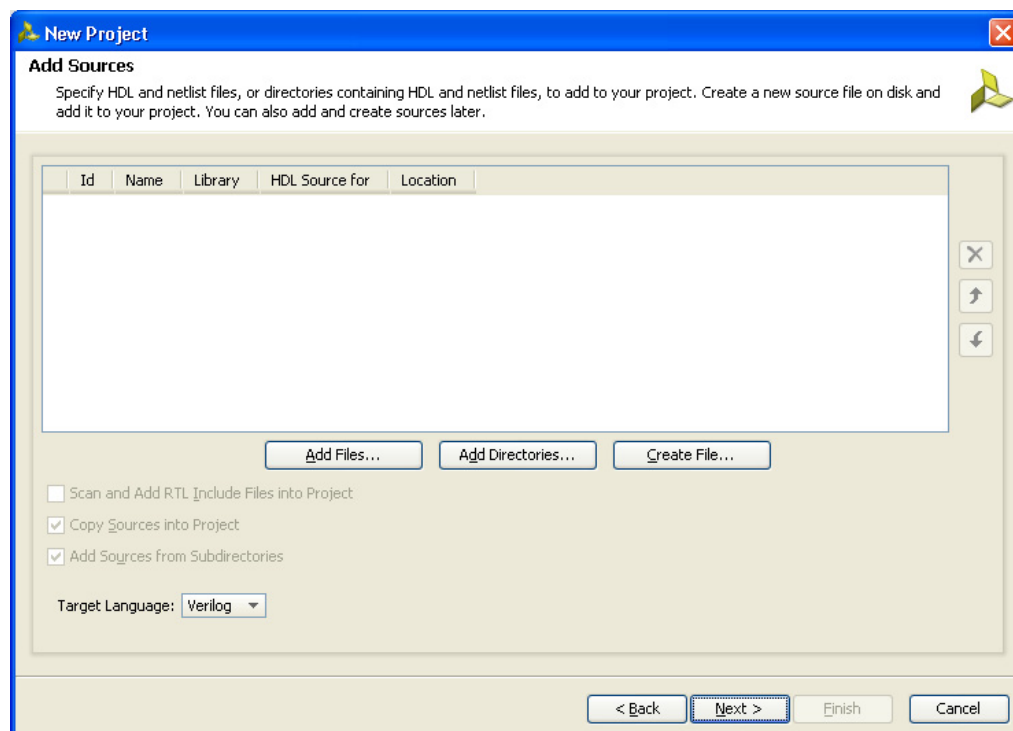

Figure 2-5: Add Sources
- Click **Next** to proceed to the Add Sources page (Figure 2-5). RTL files can be added to the project in this page. If the project was not created earlier, proceed to the next page.